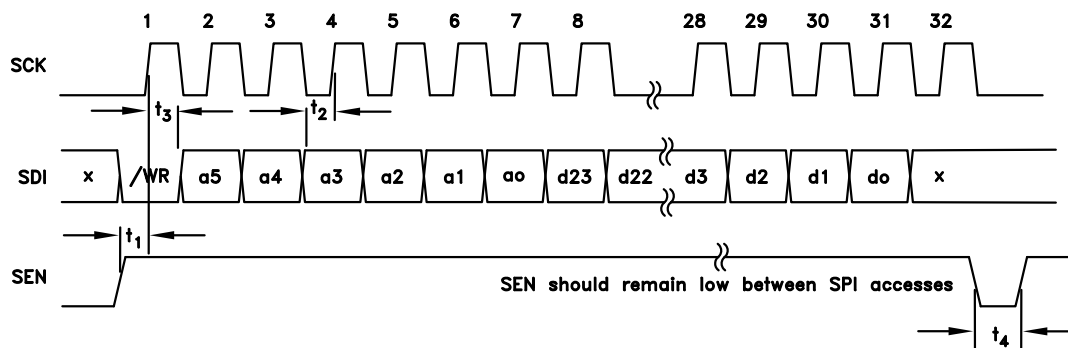
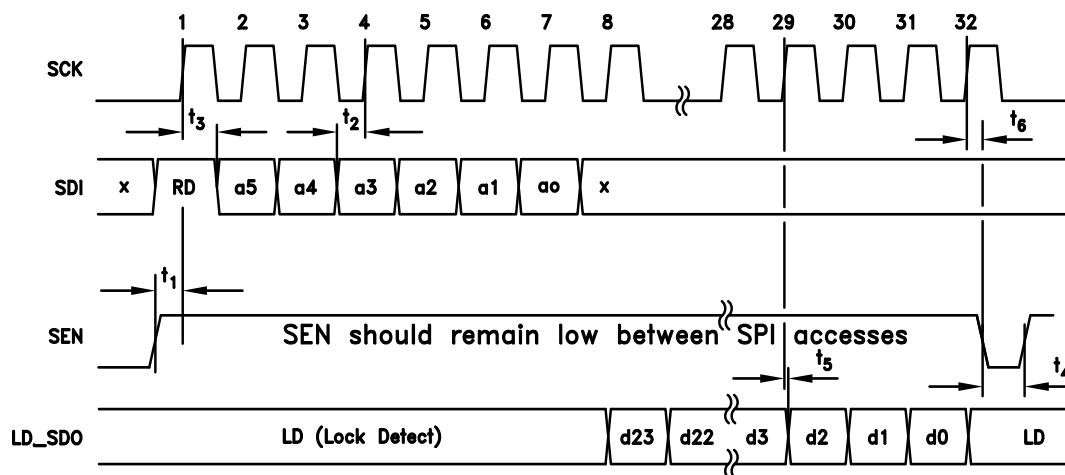

Figure 24. HMC Mode - Serial Port Timing Diagram - WRITE
Figure 25. HMC Mode - Serial Port Timing Diagram - READ
The HMC Mode protocol, shown in figures Figure 24 and Figure 25, is designed for a 4 wire interface with a fixed protocol featuring
A typical HMC Mode WRITE cycle is shown in Figure 24.
A typical HMC Mode READ cycle is shown in Figure 25.
- The Master (host) asserts both SEN (Serial Port Enable) and SDI to indicate a READ cycle, followed by a rising edge SCLK. Note: The Lock Detect (LD) function is usually multiplexed onto the LD_SDO pin. It is suggested that LD only be considered valid when SEN is low. In fact LD will not toggle until the first active data bit toggles on LD_SDO, and will be restored immediately after the trailing edge of the LSB of serial data out as shown in Figure 25.
- The slave (PLL with Integrated VCO) reads SDI on the 1st rising edge of SCLK after SEN. SDI high initiates the READ cycle (RD).